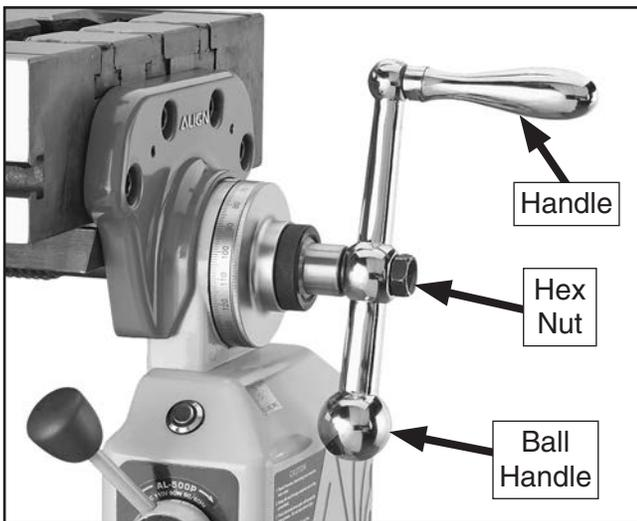

Figure 9. Ball handle installed (1 of 3).
1. Remove pre-installed hex nuts from leadscrew ends, align ball handle keyways with leadscrew keys as you slide ball handles on, then secure them with hex nuts (see **Figure 9**).